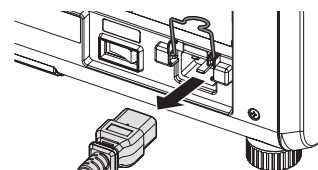

Fig. 2
- 3) **While holding the power cord connector, pull out the power cord from the <AC IN> terminal of the projector. (Fig. 2)**